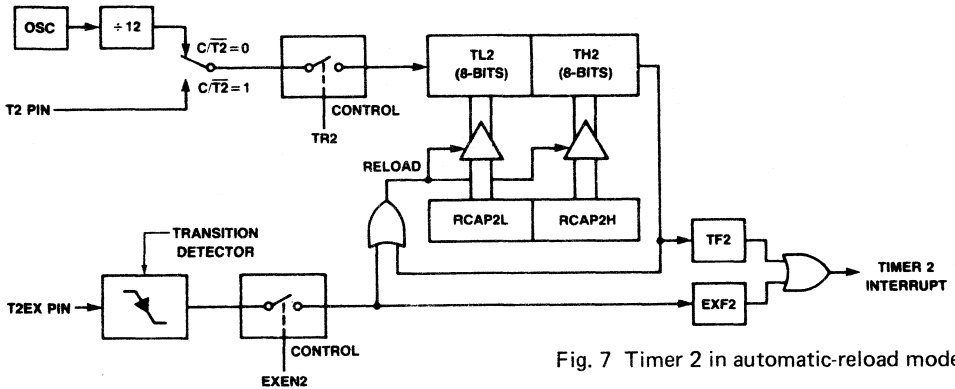

Fig. 7 Timer 2 in automatic-reload mode.
**Automatic-reload mode** (see Fig. 7)